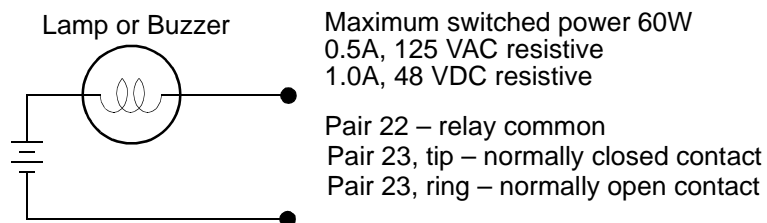

Figure 3-2. Optional External Alarm
- optional external alarm (see Figure 3-2 on page 3-7 for specifications)